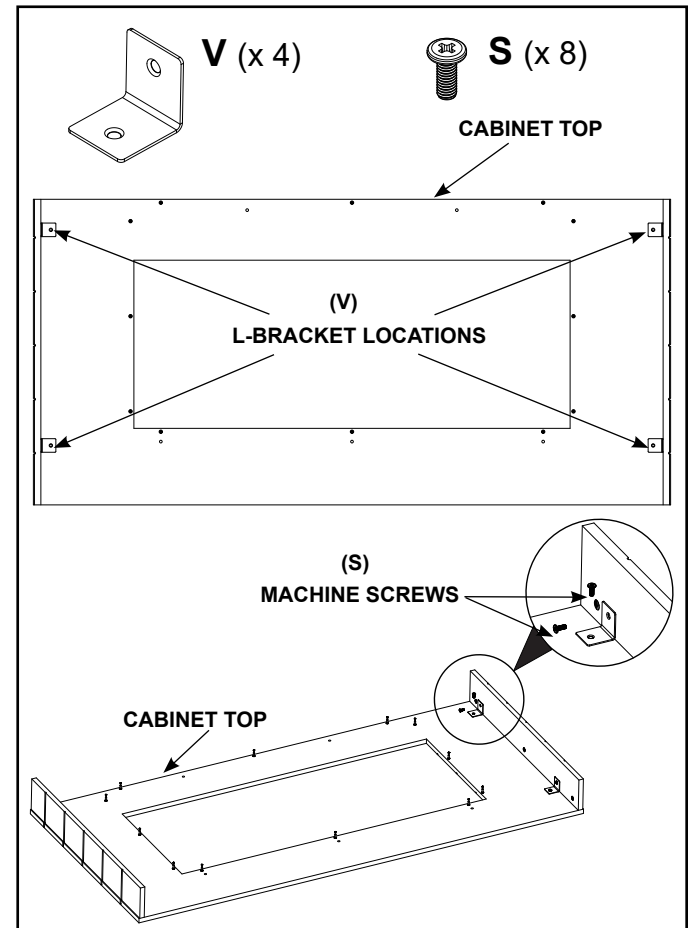

Figure 8
- Install four (4) (V) L-Brackets using eight (8) M6 X 15 screws (S) securing parts “C” and “D” to part “A”. See Figure 8.